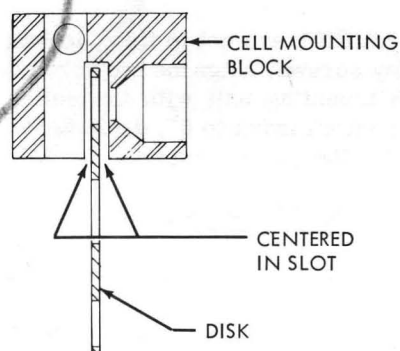

Figure 5-5. Disk Location
b. Reinstall disk and slightly tighten disk mounting screw. Check to see that disk is located in center of solar cell mounting block. If care has been taken to remove and reinstall the cell unit and disk, the disk will be located in the same place, in reference to cell mounting block, as it was originally installed (Figure 5-5).